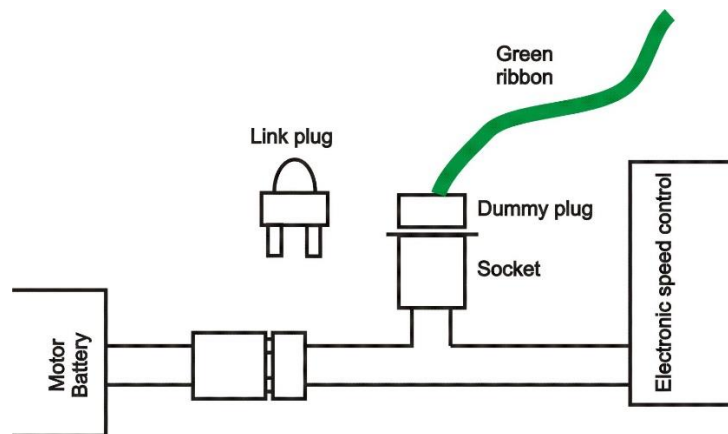

Figure 2
- b. Open circuiting one wire of the model's battery circuit by means of a suitable socket and removable link plug (refer Fig. 2).